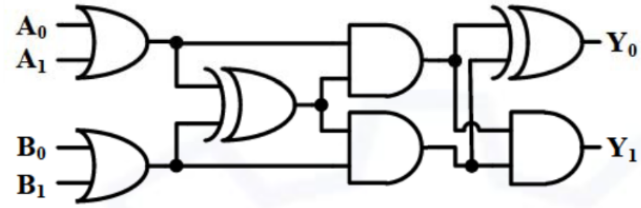

Fig. 4.25
46. In the circuit shown below in Fig. 4.25, Y is a 2-bit ( $Y_1Y_0$ ) output of the combinational logic. What is the maximum value of Y for any given digital inputs,  $A_1A_0$  and  $B_1B_0$  ?